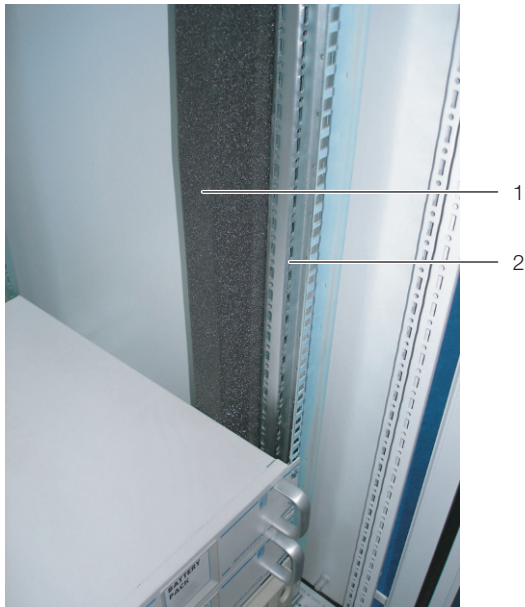

Fig. 11: Foam strip on a server rack upright
- Fasten the wider (Model No. 3301.370 / 3301.320) of the two foam strips from the LCP DX accessories onto one of the front uprights of the server rack from the outside (fig. 11). Make sure to install this strip on the side of the server enclosure onto which the LCP DX is to be bayed.
- If you are only baying the LCP DX on one side: Fasten the narrower (Model No. 3301.380 / 3301.390) of the two foam strips from the LCP DX accessories onto one of the front uprights of the server rack from the outside (fig. 11). Make sure to install this strip on